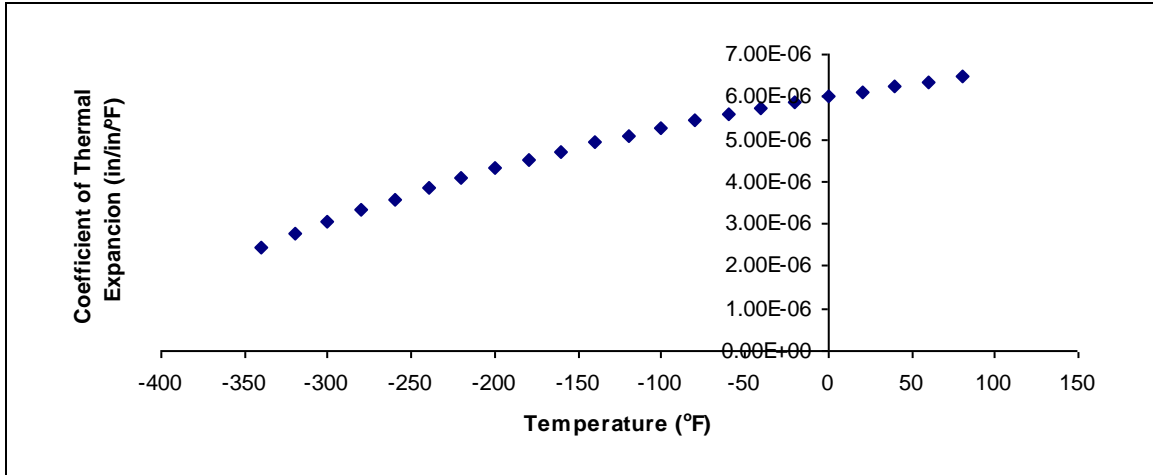

Figure 3 Varying thermal expansion coefficient as a function of temperature for cast steel.
As shown in Figure 3 and Table 1, the thermal expansion coefficient of steel decreases with temperature and is not constant over the range of temperature the trunnion goes through. Hence, Equation (1) would overestimate the thermal contraction.